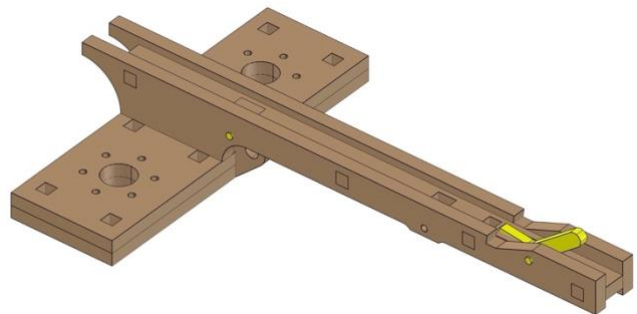

Fig. 16
- *Fig. 16* shows the completed process.